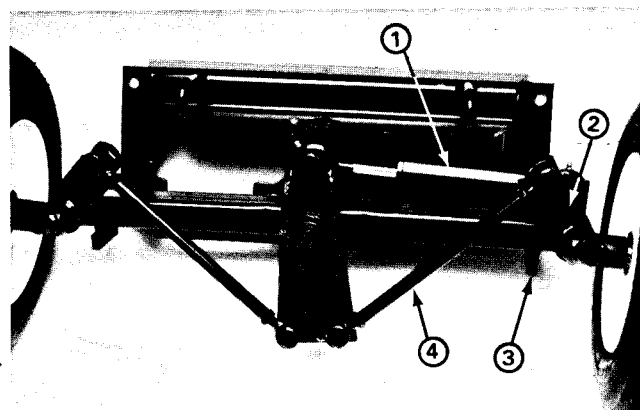

Figure 7
4. Turn the steering wheel full left (counterclockwise) so the steering cylinder is retracted all the way. The right rear spindle should be 1/16" (1.5 mm) to just touching the axle stop (Fig. 7). Loosen the jam nuts on the right tie rod and adjust as necessary.